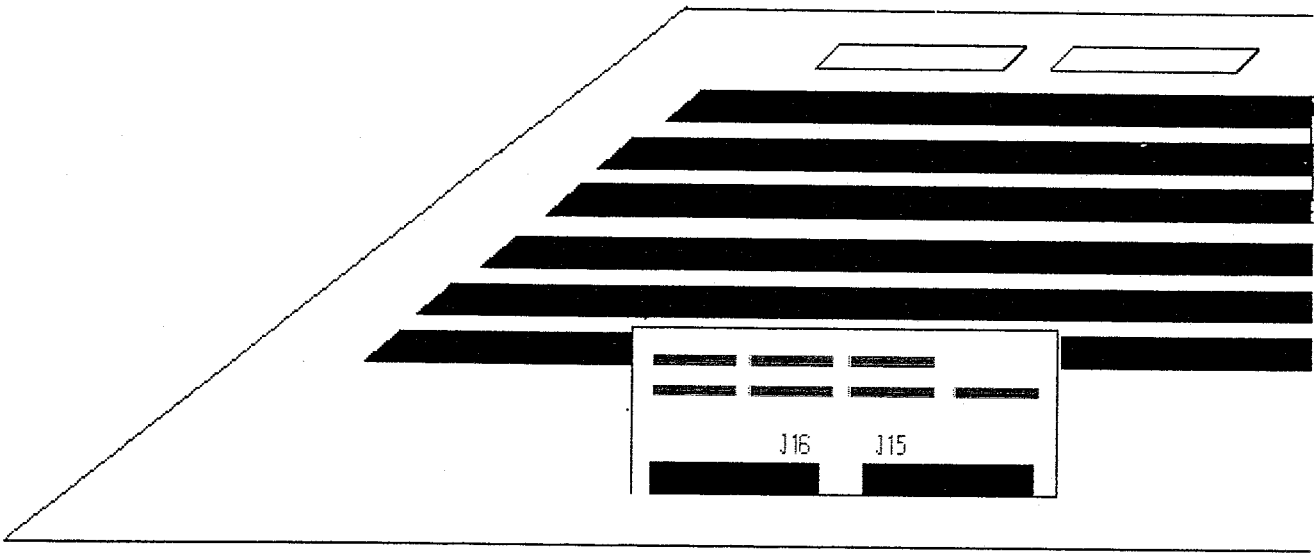

Figure 8, Installing the Terminator Board
**Step 6. Install the Terminator board.** Turn the Terminator board so that the components are on the side facing the power supply and J15 and J16 plug onto connectors J13 and J14 on the Motherboard. Make sure the board fits snugly on the connectors. (See Figure 8, Installing the Terminator Board.)